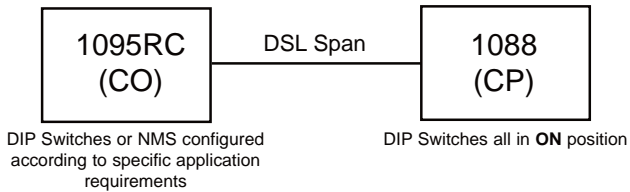

Figure 3. Typical NetLink Plug-and-Play Application
- Set the Model 1095RC (CO) to either Internal or External clocking mode as defined by the application.
- Set the Model 1088 (CP) to “NetLink Plug-and-Play CP” by setting S1 and S2 DIP switches in the ON position as described in Figure 3.